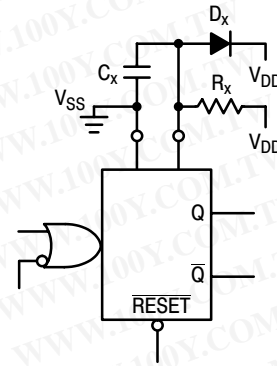

Figure 11. Use of a Diode to Limit Power Down Current Surge
9. If $C_X > 15 \mu F$, use discharge protection diode per Fig. 11.
When a more rapid decrease of V_{DD} to zero volts occurs, the MC14538B can sustain damage. To avoid this possibility use an external clamping diode, D_X , connected as shown in Fig. 11.